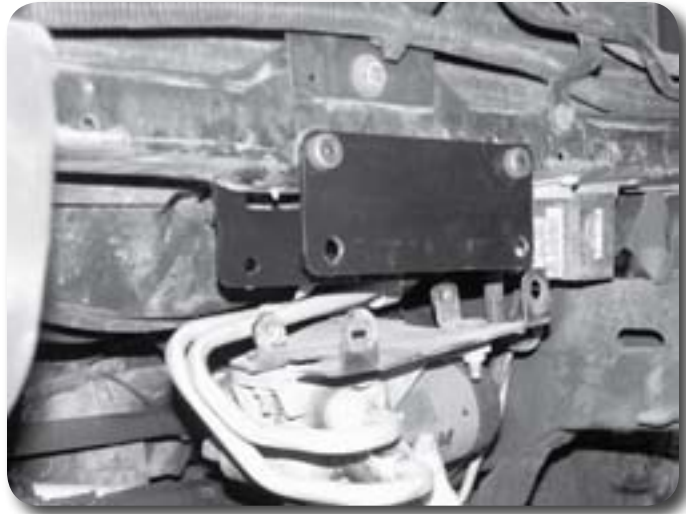

Figure 40
71. Install the oil filter relocation brackets to the original mounting holes in the core support with the provided 3/8" x 4" bolts, 1/2" x 2.970" sleeves, nuts and 3/8" USS washers. The front bracket is flat and the rear bracket should bend forward with the notch to the passenger's side of the vehicle fitting over the new radiator shroud bracket **Figure 40**. The lower holes will be offset to the driver's side. Leave bolts loose.